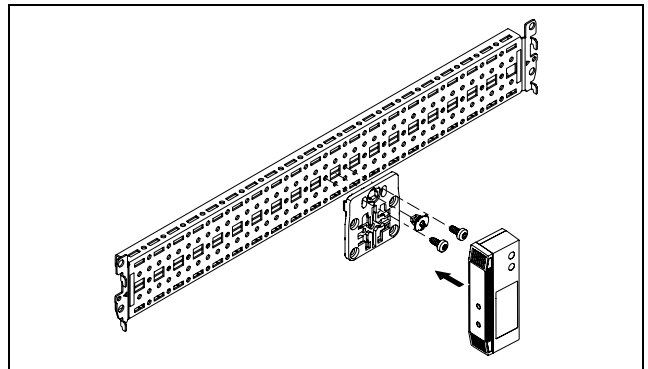

Fig. 7: Fastening the sensor to a system chassis
- Use a CAN bus connection cable to connect the temperature/humidity sensor to a CAN bus interface on the CMC III Processing Unit or the neighbouring component on the CAN bus (fig. 7, item 2).